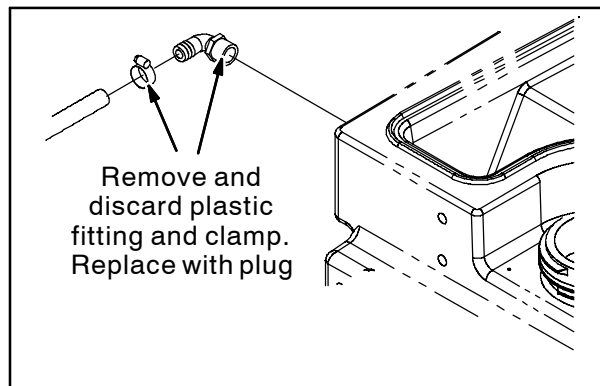

FIG. 3
4. Remove the plastic fitting from the recovery tank. Refer to Fig. 3.